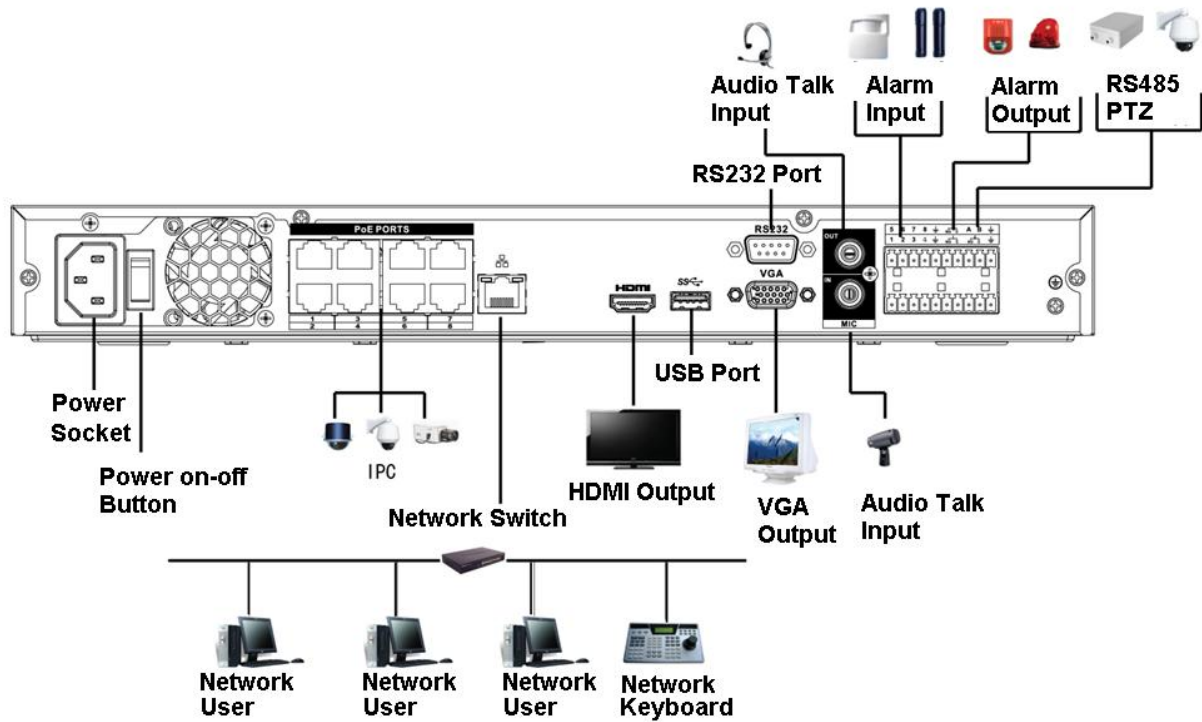

Figure 3-1
- Device cable connection is shown as in Figure 3-1.